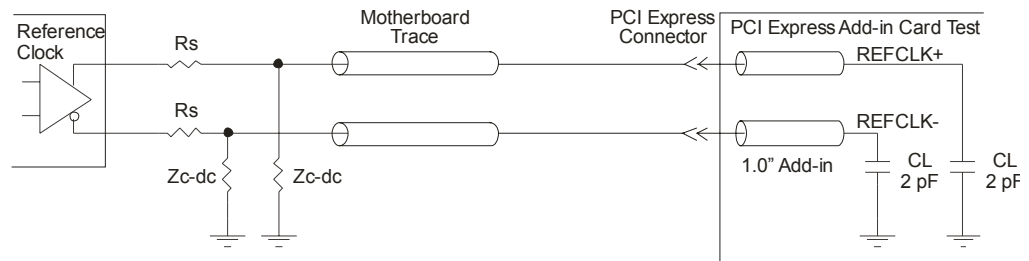

Figure 28 Driver Compliance Test Load.
- Measurement taken from differential waveform using the circuit shown in Figure 28 on page 100.